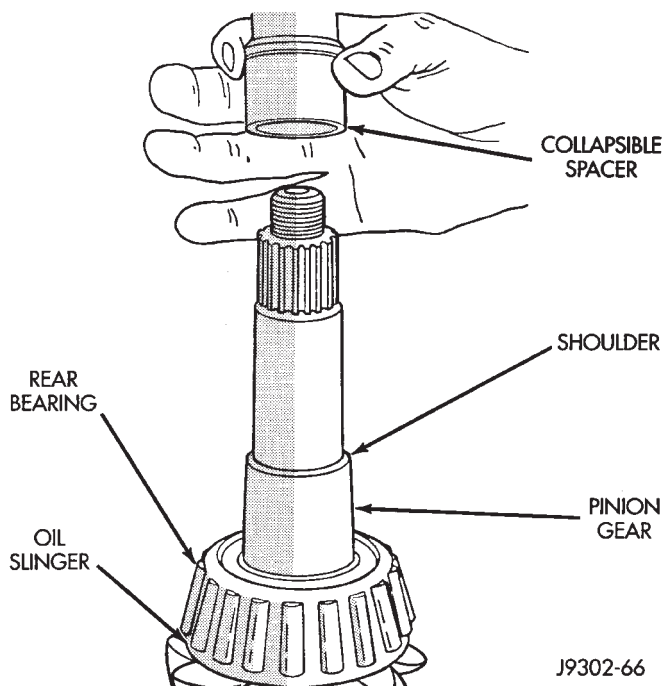

Fig. 28 Collapsible Spacer
(8) Remove the collapsible preload spacer (Fig. 28).